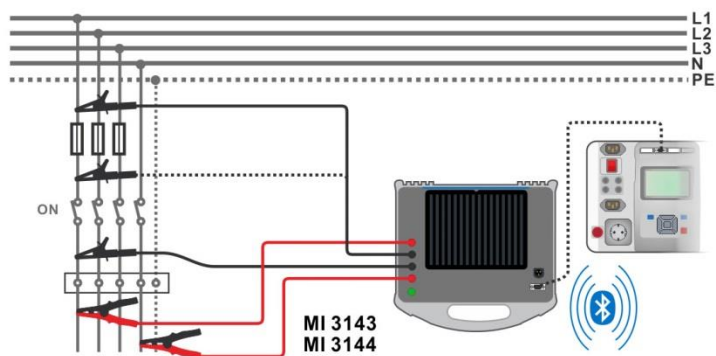

Figure 6.82: High Current resistance measurement
- › Connect test leads to the object under test, see **Figure 6.82**. Refer to **MI 3143 – Euro Z 440 V** or **MI 3144 – Euro Z 800 V Instruction manual** for detailed information.